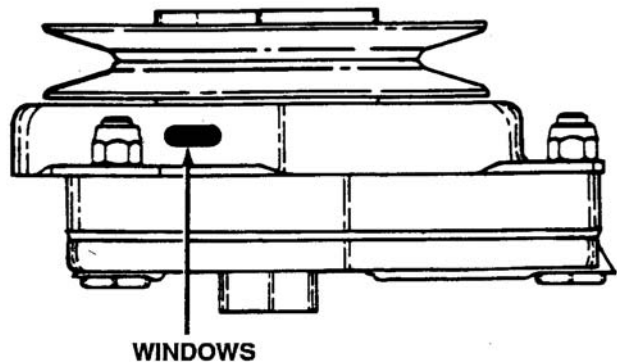

Figure 3-75. Checking Air Gap Setting
2. Locate the three windows or notches where the air gap is checked. See Figure 3-75.